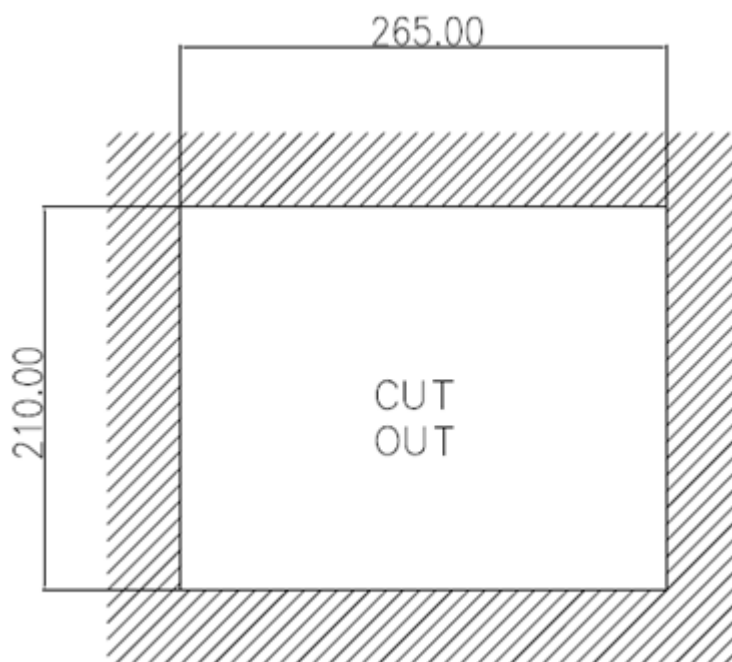

Figure 2.26 PPC-3100S Cut-out dimension
- Lock screws and fixed machine. (See Figure 2.26)